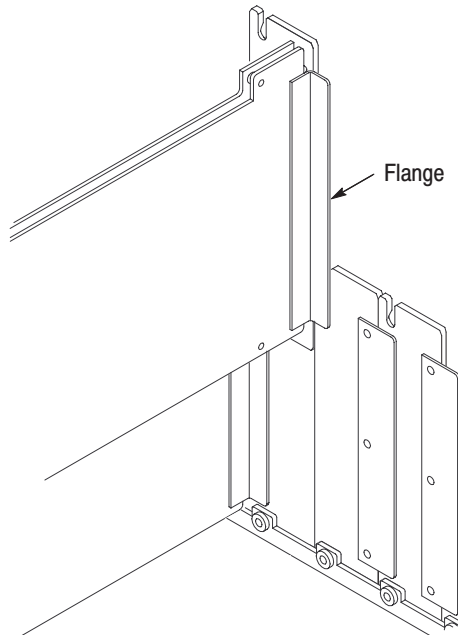
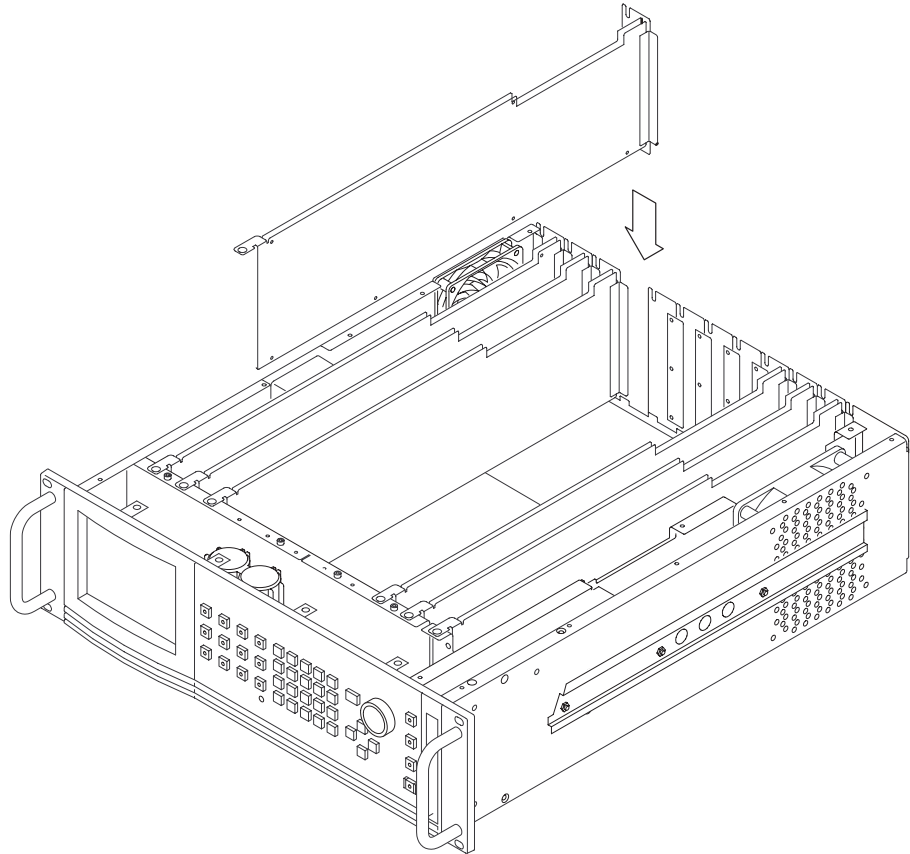

Figure C-4: Module flange
Figure C-5: Installing the module
5. While ensuring correct alignment of the module flange as shown in Figure C-4, lower the module into the desired slot as shown in Figure C-5.